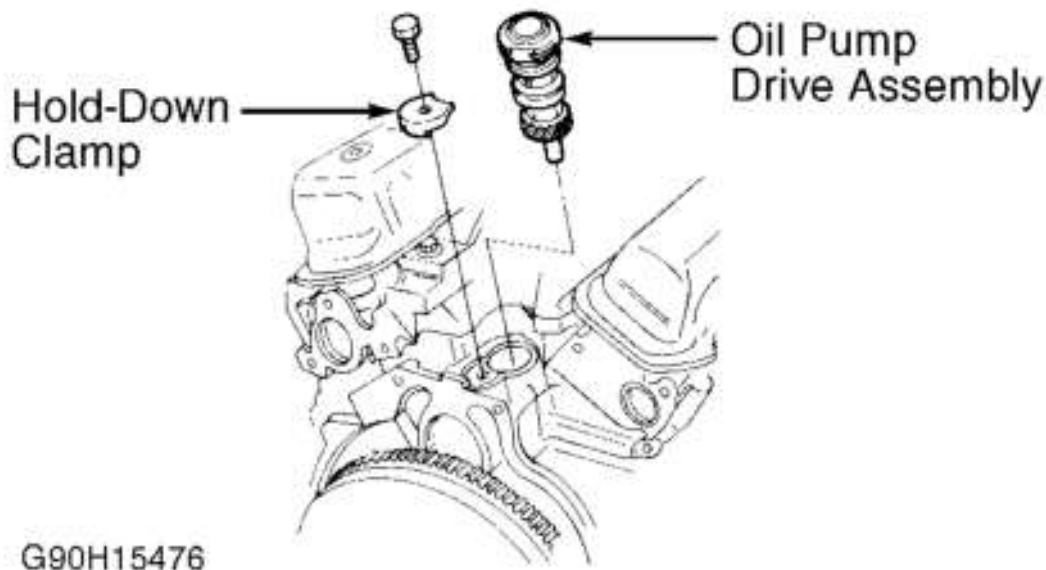

Fig. 8: Removing Oil Pump Drive Assembly
1. Disconnect negative battery cable. Remove timing chain cover. See **TIMING CHAIN COVER**. Remove upper and lower intake manifolds. See **INTAKE MANIFOLDS**. Remove bolt, hold-down clamp and oil pump drive assembly from rear of engine. See **Fig. 8**.